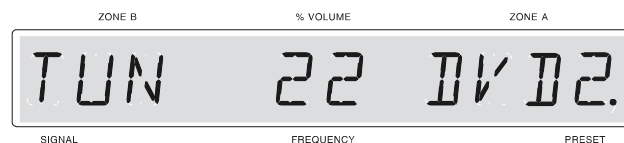

Figure 17
*Note: When a digital input is assigned and selected a dot appears after the ZONE A Input source on the front panel display. Refer to Figure 17.*